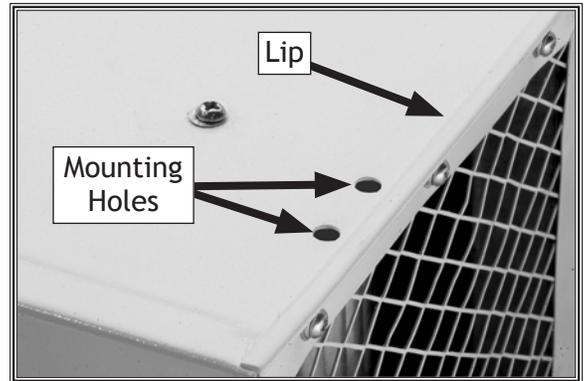

Figure 16. Flange bracket mounting holes and lip.
3. Position (1) flange bracket under air filter lip at mounting hole location (see Figure 16). For permanent table-top mounting, use the lower-lip holes.